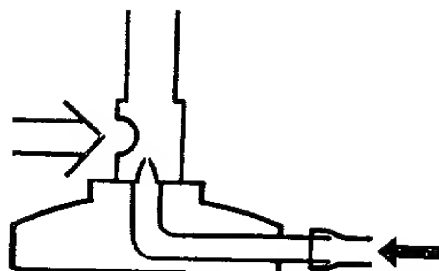
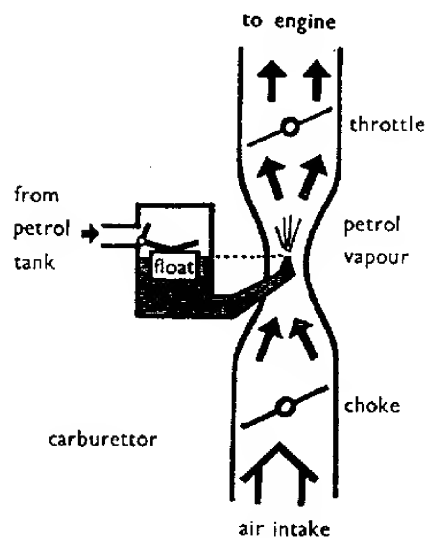

Fig. 27
Fig. 28
Can you explain how a bunsen burner (Fig. 27) and a carburettor (Fig. 28) operate? (18) Remember that for fast flow the pressure is low.